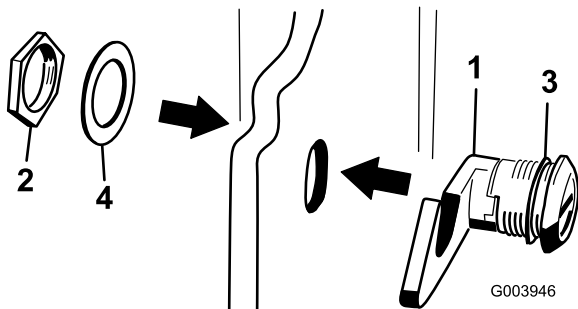

Figure 16
3. Remove the nut from the hood latch assembly (Figure 16).